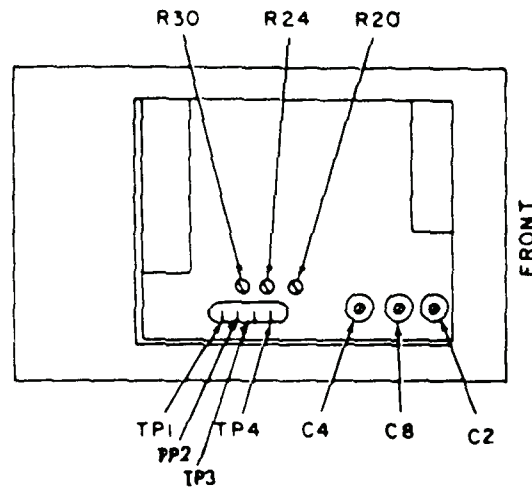

Figure 2. Test instrument left side view.
- (1) Set **RANGE** switch to **X1K** and frequency dial to **10**.
- (2) Connect multimeter between TP 4 (fig. 2) and chassis ground.
- (3) Adjust R20 (fig. 2) for 0.0 V dc indication on multimeter (R).
- (4) Adjust frequency dial to 1 and connect positive lead of multimeter to TP 1 (fig 2).
- (5) Adjust R24 (fig. 2) for a -2.0 V dc indication on multimeter (R).
- (6) Set frequency dial to **10** and adjust C2 and C8 (fig. 2) for an indication of 10 kHz on frequency counter and a -2.0 dc indication on multimeter.
- (7) Repeat (4) through (6) above to compensate for interaction.
- (8) Set **RANGE** switch to **X100K** and adjust C4 (fig. 2) for a 1 MHz indication on frequency counter.
- (9) Set **RANGE** switch to **X5** and adjust frequency dial to **1**. Repeat technique of a (2) through (5) above.
(1) Set **RANGE** switch to **X1K** and frequency dial to **10**.
(2) Adjust R30 (fig. 2) for minimum distortion as indicated on audio analyzer (R).
(3) Repeat a (2) through (6) above.